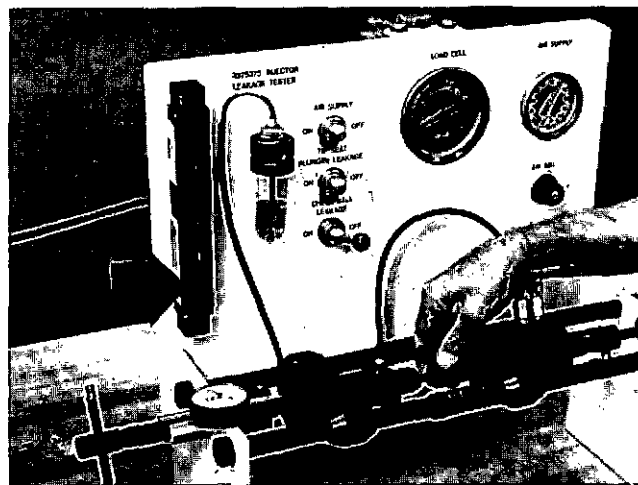

Fig. 4-14, (F60247). Measure the plunger to body or barrel leakage
7. Gently rotate the injector plunger in small increments, and watch the flowmeter for the highest reading, Fig. 4-14.